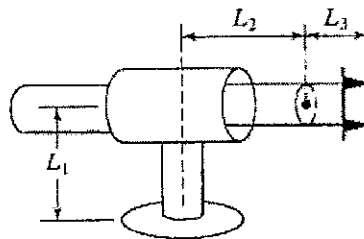

Figure Q3(b)
b) Figure Q3(b) shows a manipulator with two rotary joints and one prismatic joint.